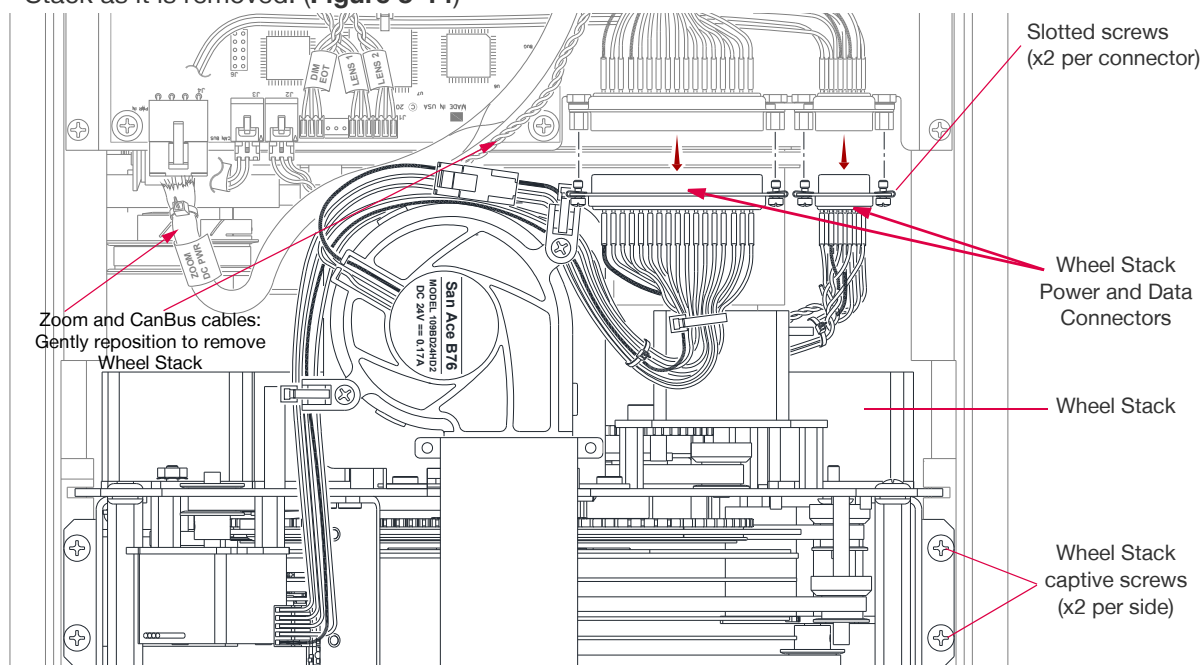

Figure 3-14: Wheel Stack Power and Data Cable Detail
- a. Disconnect the Power and Data cables for the from the Wheel Stack from the Driver PCB mount by loosening the slotted screws in each mount, and then gently rocking each side-to-side until disconnected. **(Figure 3-14)**
- b. Gently position the Zoom Power and Can Bus cables out of the way so they do not catch on the Wheel Stack as it is removed. **(Figure 3-14)**
- Step 8. Grasp the Wheel Stack on both sides, and lift straight up out of the Head while minding the Zoom and CanBus cables you repositioned so they don't catch on the Wheel Stack. **(Figure 3-14)**